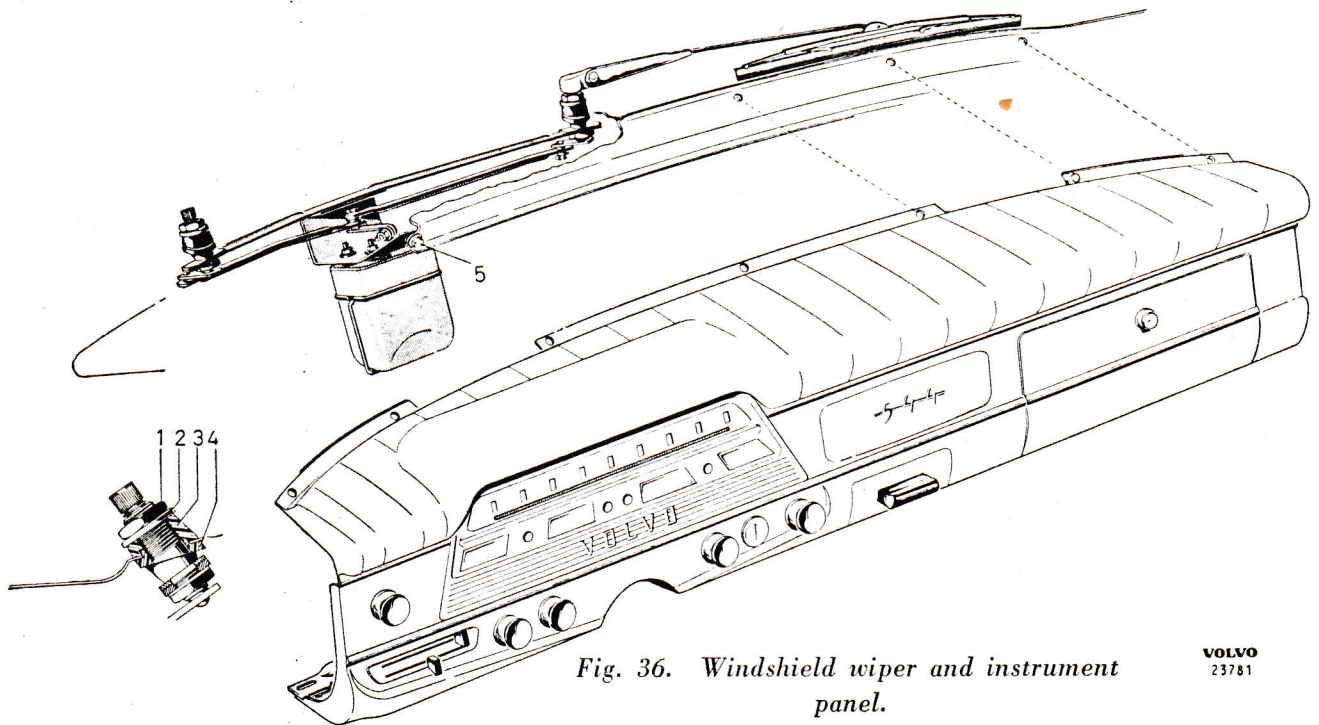

Fig. 36. Windshield wiper and instrument panel.
2. Remove the nut (1) for the bearing and lift off the washer (2) and the seal (3), see Fig. 36.
4. Loosen the screw (5), Fig. 36, retaining the wiper mechanism to the body. This is accessible from the underside of the instrument panel.
The instrument panel is retained to the body by means of screws, see Fig. 36. The instrument panel can be removed after the windshield has been loosened.